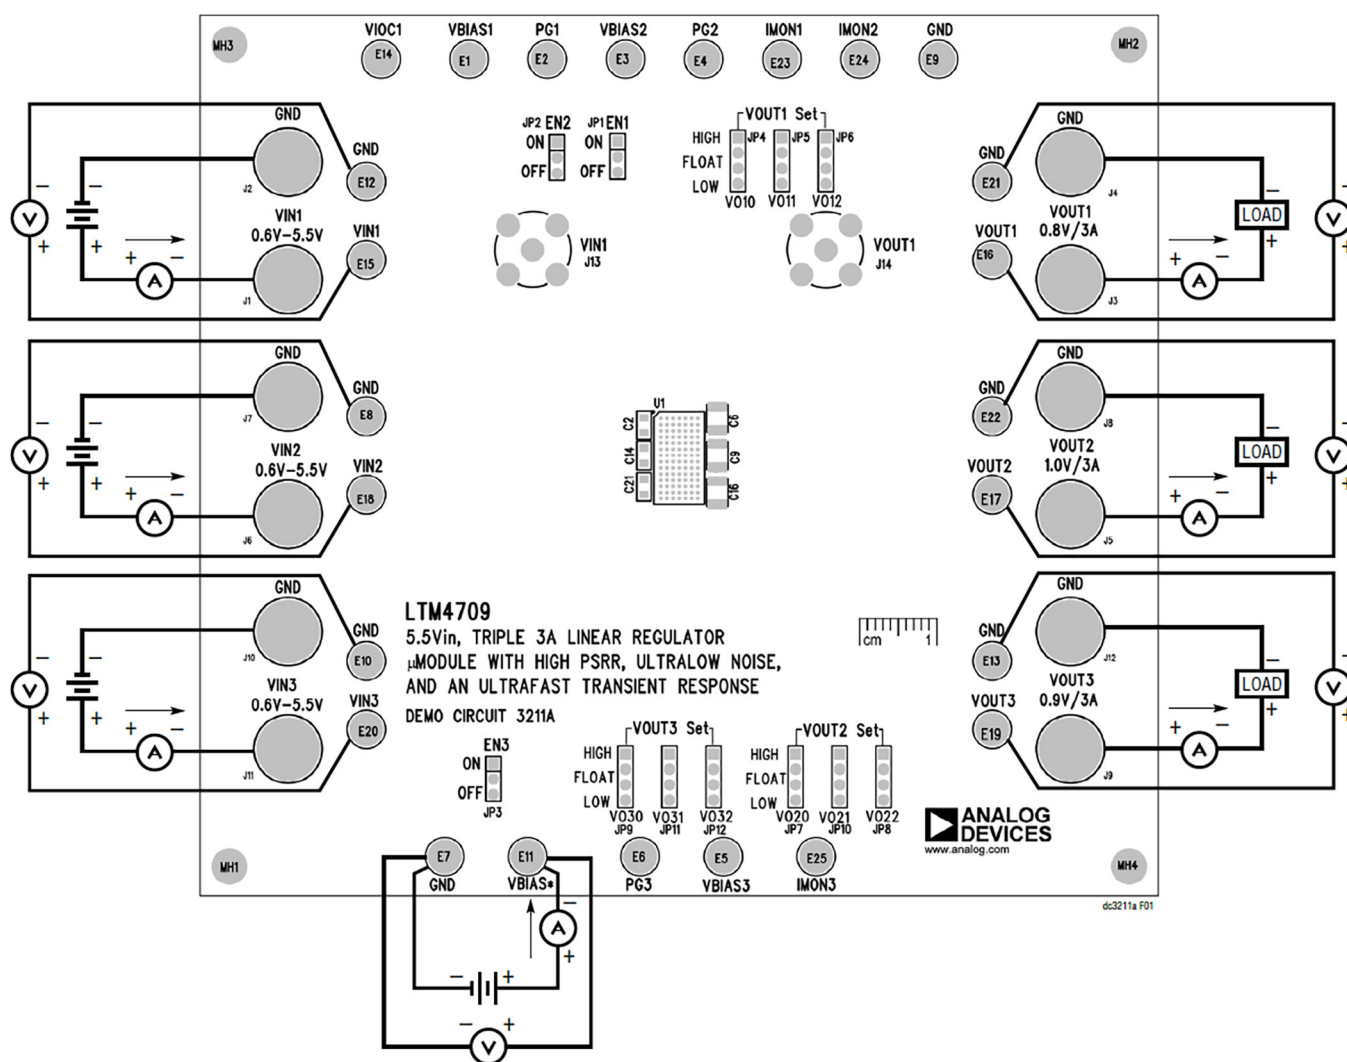

Figure 1. Measurement Setup of DC3211A
Demonstration circuit 3211A is an easy way to evaluate the performance of the LTM4709. See Figure 1 for proper measurement equipment setup and follow the procedure below.
1. With the input supplies off and turned down, make all the connections shown in Figure 1. Ensure that the VO_{n0} , VO_{n1} , and VO_{n2} jumpers to set V_{OUTn} are in the proper positions for the desired output voltage according to the V_{OUTn} selection matrix table in the LTM4709 data sheet. Also, ensure that the EN_n jumpers (JP1, JP2, JP3) are in the ON position.